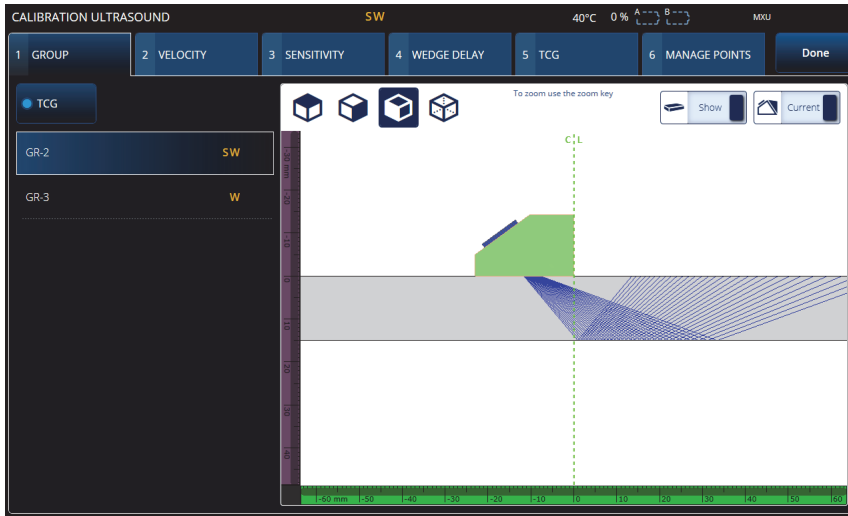

Figure 4-1 Calibration > Group
1. Select **☰ > ✎ Plan & Calibrate > Calibration Tools** to access the **PA/UT/TFM Calibration** wizard (see Figure 4-1 on page 162). See “TOFD Calibration” on page 180 to perform a TOFD calibration. Like the Scan Plan wizard, the Calibration wizard’s workflow is separated into several tabs or sections (for different types of calibration).
2. On the **Group** tab (see Figure 4-1 on page 162), select the group you wish to calibrate. For a UT group, also choose the sizing method to calibrate: **TCG**, **DAC**, or **DGS**.